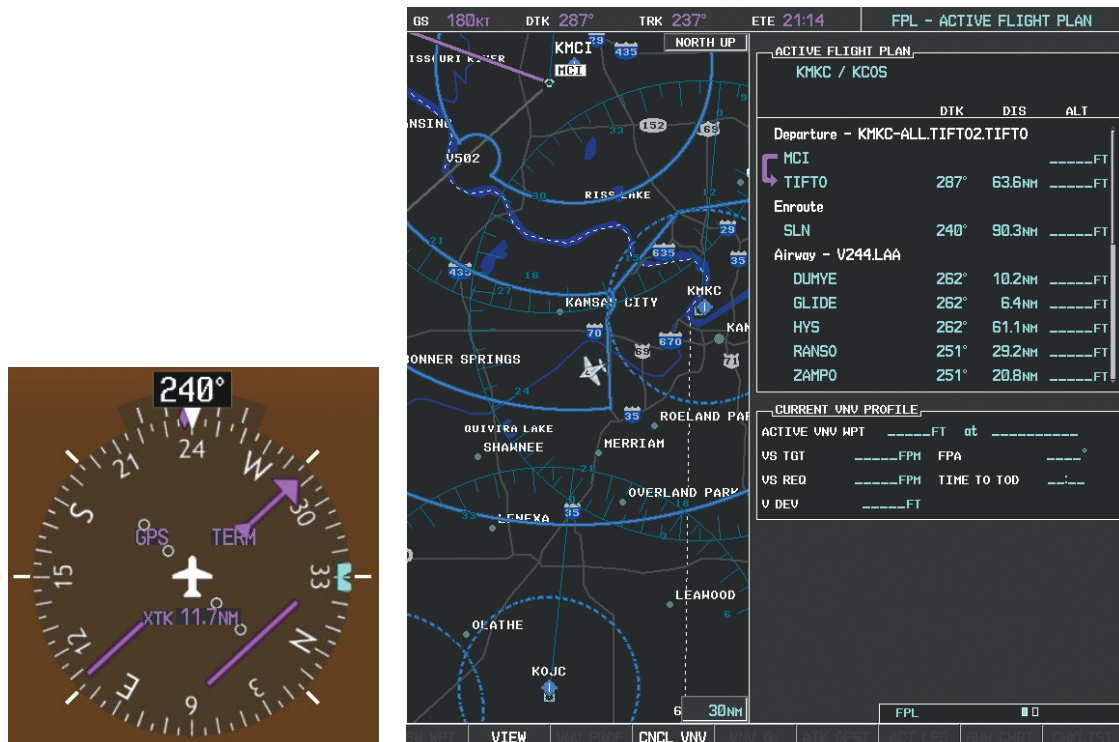

Figure 5-104 Assigned Heading of 240°
- 1) Prior to departure, the TIFTO2 departure, the airways, and the DBRY1 arrival at KCOS are loaded. See the Procedures section for loading departures and arrivals. Note the magenta arrow in Figure 5-104 indicating the active departure leg.
- 2) Figure 5-104 shows the aircraft on the assigned heading of 240°. 'TERM' (Terminal) is the current CDI flight phase displayed on the HSI indicating 1.0 nm CDI scaling.